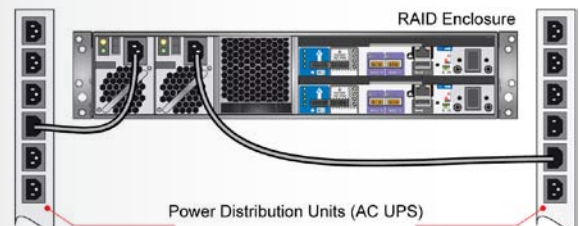

Fig. 61 - Power Cord Connections
2. Attach the power cord to the Power Distribution Unit (Fig. 61) in the rack or other power source.